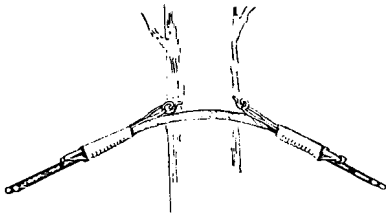

Figure 2. Tree Attachment To 3- To 6-Inch Diameter Trunk
- a. Use C bridle rings and drop wire clamps when attaching drop wires to limbs or trunks from 3 to 6 inches in diameter. Not more than one drop wire clamp may be attached to one bridle ring. See Figure 2.